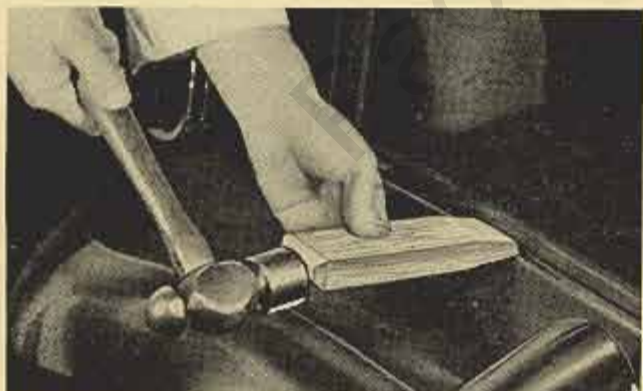

Fig. 5
5. The panel section below the trunk lid can be driven forward or back as shown in Figures 5 and 6 to obtain desired alignment and weatherstrip to trunk lid contact.